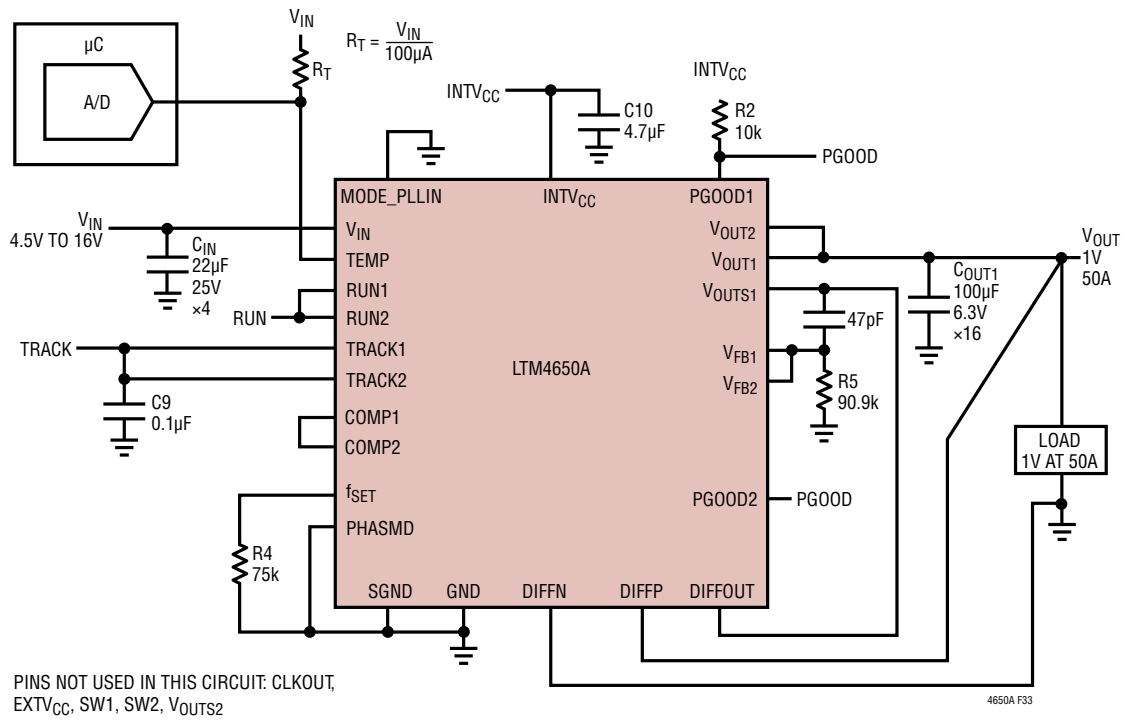

Figure 33. LTM4650A 2-Phase, 1V at 50A Design
**Table 6. Output Voltage Response vs Component Matrix (Refer to Figure 33) Load Step Typical Measured Values**